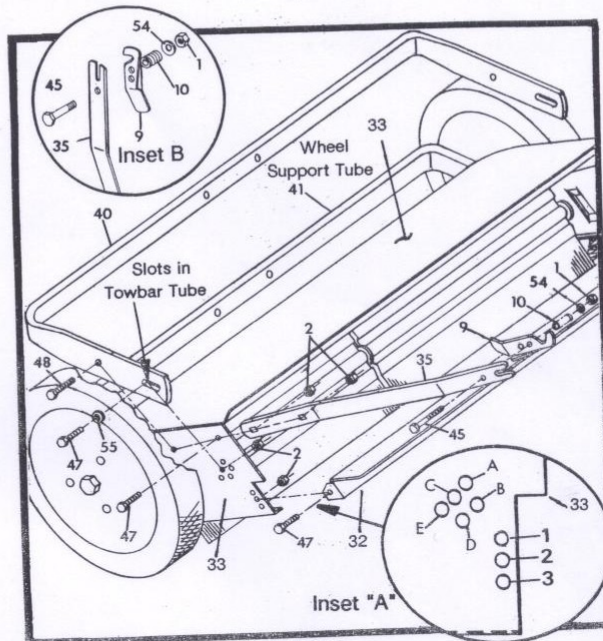

Fig. 1
Refer to Figure 1
Attach the Sweeper to your Tractor Drawbar using the 1/2" Hitch Pin (4) and Hairpin Cotter (7) supplied. Tie the end of Pull Rope (19- attached to Hamper) to a convenient location at rear of Tractor. Move Tractor and Sweeper to a flat area (driveway, garage, etc.). Refer to chart in Figure 1 to make sure your Sweeper is assembled properly for your Tractor Drawbar Height.
- Observe the ground clearance at rear of Hamper with Sweeper in operating position. The Hamper should be between 3" and 5" from ground. If adjustment is required, refer to Figure 1 and select Hamper Leveling mounting hole required. Number 1 hole is for lowering Hamper to ground clearance; number 3 hole is for increasing hamper to ground clearance.